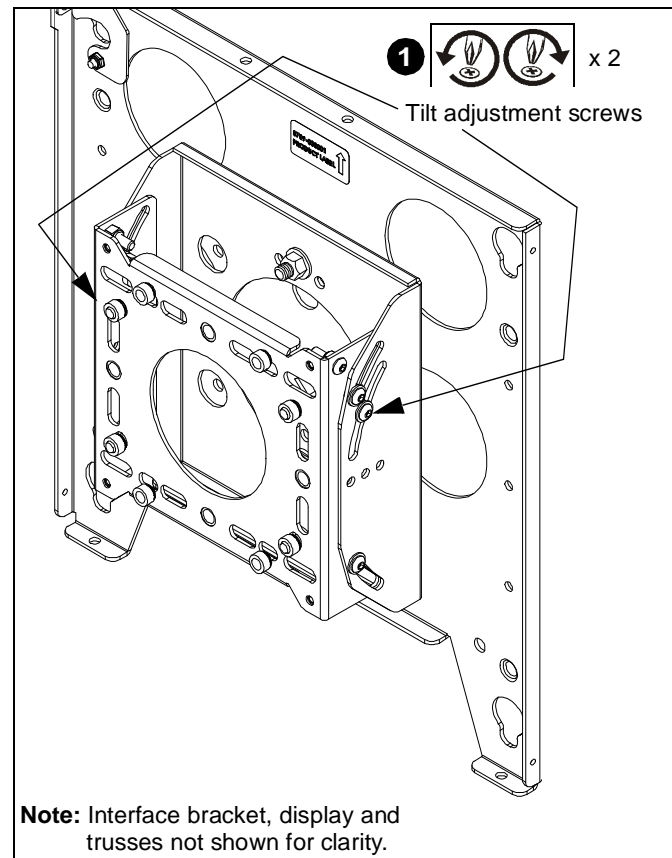

Figure 10
1. Loosen tilt adjustment screws, adjust to desired tilt (up to 15°), and tighten tilt adjustment screws. (See Figure 10)